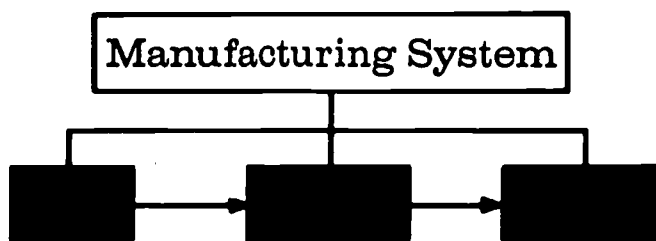

Fig. 3-5. The manufacturing system has three main parts: input, process, and output.
think of it as having three main parts: (1) *input*, (2) *process*, and (3) *output*, Fig. 3-5. To work well, the system must be *managed* (planned, organized, and controlled), and so must each of its parts.